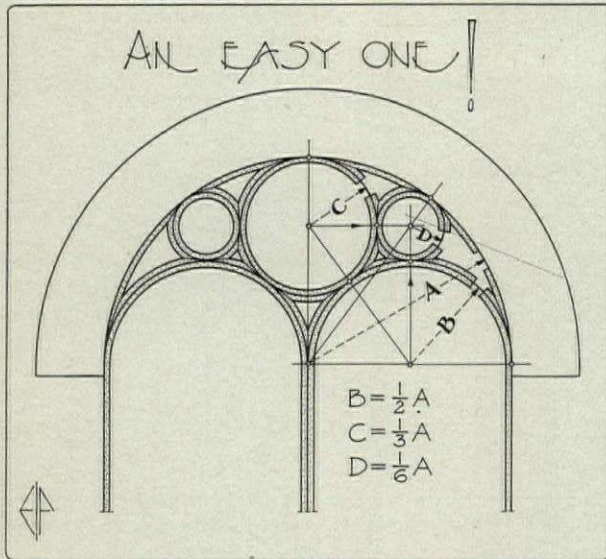

FIGURE 6
R. M. C. of Beverly Hills, California, says he has a "hunch" that the commensurable combination of tangent circles at Figure 6, herewith, is "correct." Well, a simple mathematical calculation proves it:—